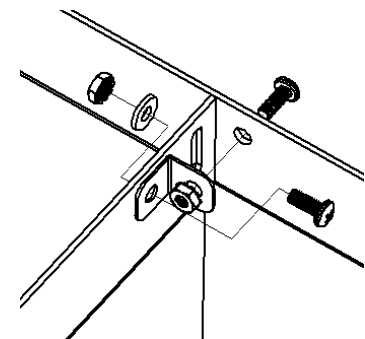

Figure 4 Divider Assembly @ Middle
- A. Attach an Angle Bracket (#8) to each Side Panel Top Beam using 1/2" L. Screws (#7), and KEP Nuts (#9). (Figure 4 Divider Assembly @ Middle)